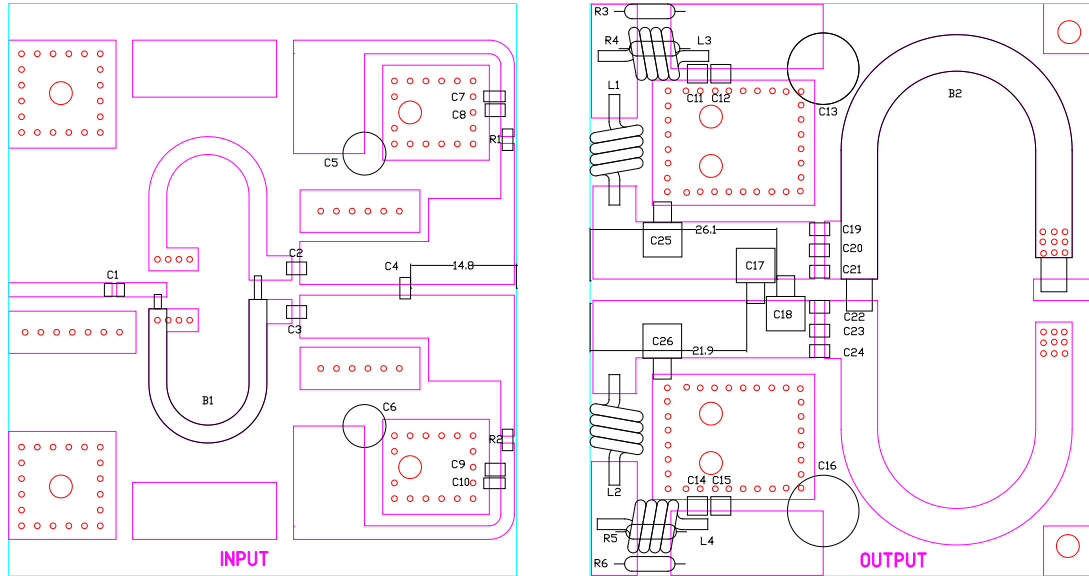

Figure 3 PCB Layout Drawing
- Figure 3 PCBLayout Drawing 6